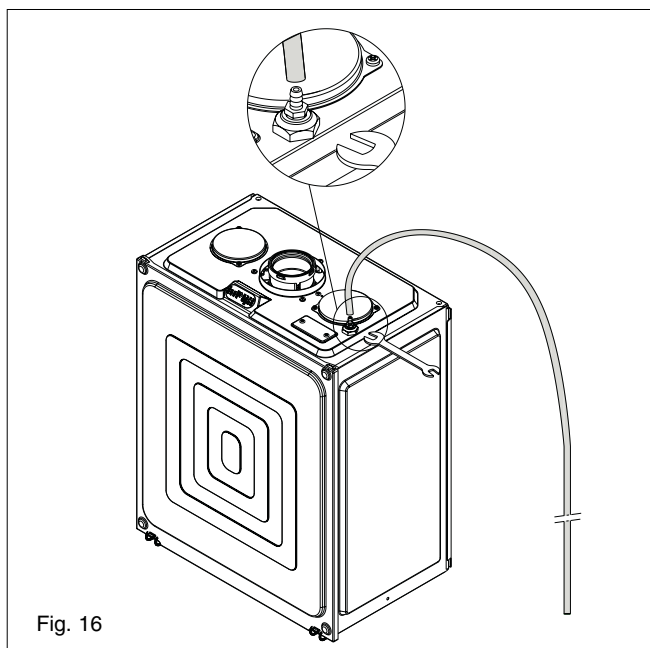

Fig. 16
5.3.1 MANUAL AIR RELEASE (fig. 16)